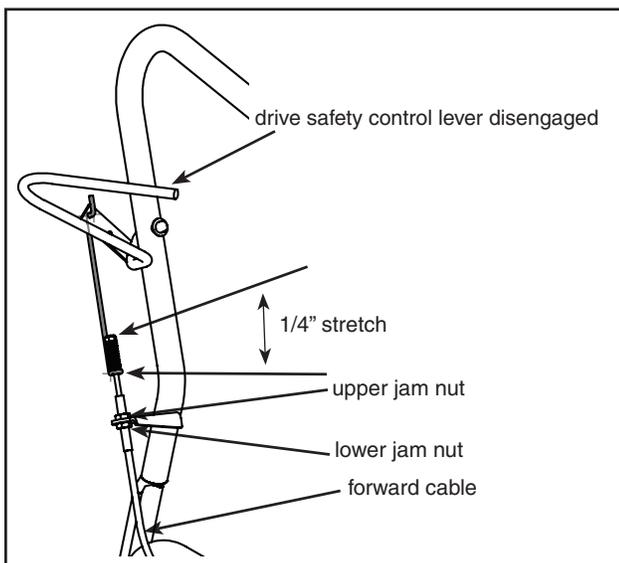

FIGURE 5-Model 3310V Handlebar
To increase belt tension: SEE FIGURE 5.
4. Pull down on drive safety control lever and measure length of spring when compressed. Ideal length would be 1/4" shorter. **SEE FIGURE 5.**